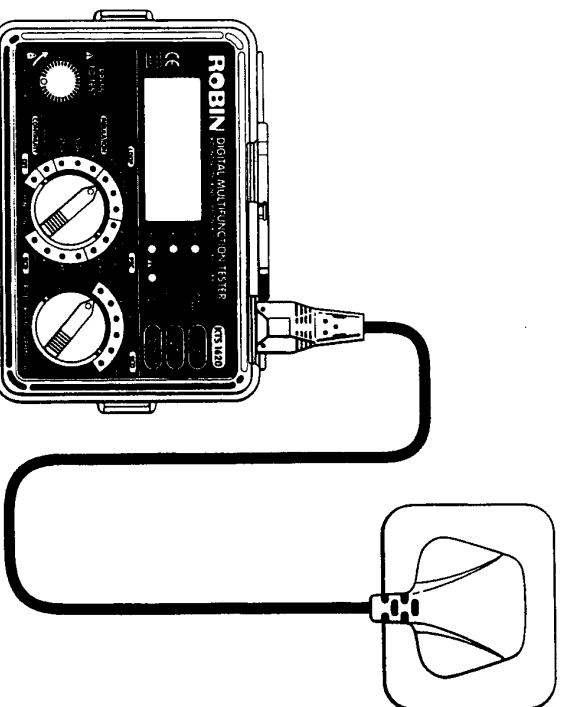

Fig 9
2. If testing sockets, connect the plug lead to the KTS 1620 and push the moulded plug into the socket to be tested (see Fig 9).